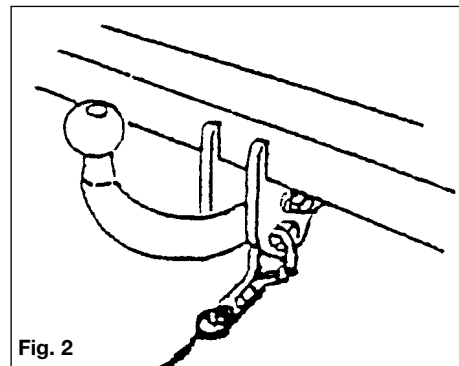

Fig. 2
- Do not clip directly onto the designated point (figure 2) since the clip is not designed for use in this way.